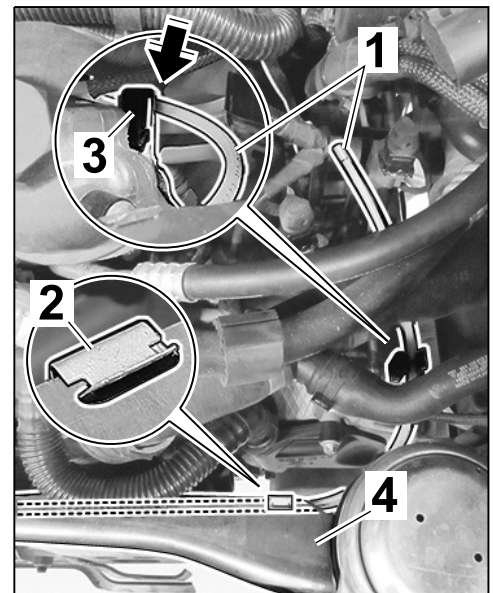

Figure 14
- 2.6.2 Fit 420-mm Tekalan line ⇒ *Figure 14-1-* into holder ⇒ *Figure 14-3-* (⇒ *Figure 14-arrow-*).